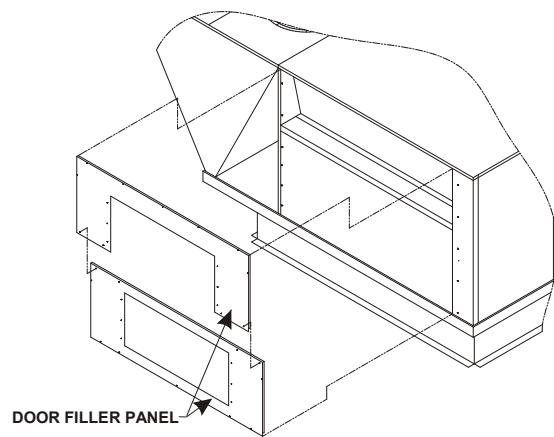

Figure 8
13. Install door filler panels (provided) with panel having rectangular hole at the bottom and panel with "U" shaped opening at the top. **See Figure 8.**